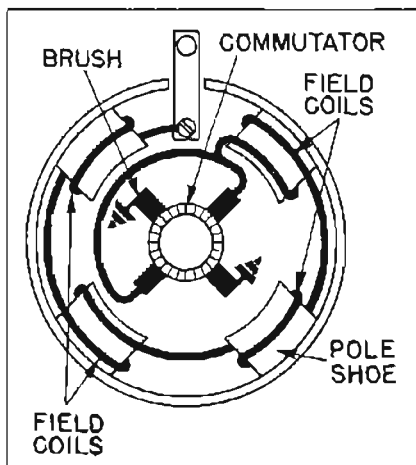

Figure 10-26—Cranking Motor Circuit - V-6
6. With cover off, voltage reading will change considerably. Starting with the changed voltage reading, increase or decrease voltage (the amount determined in Step 5) as shown in Figure 10-26. CAUTION: Always make final adjustment by increasing spring tension to assure contact between screw head and spring support.
The cranking motor in the V-6 engine has four field coils connected in series between the terminal and the insulated brushes. See Figure 10-26.